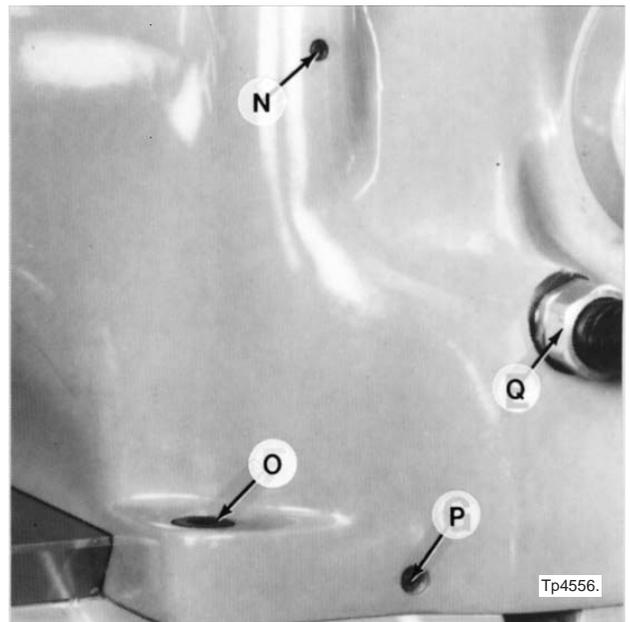

Figure 6.9 - Back of Headstock
21. Remove lock screw "N", Figure 6.9, and loosen the set screw under lock screw "N".
28. Remove cable nut "Q", Figure 6.9, and pull the wires out of the headstock.
23. Replace the set screw located under locking screw "P", Figure 6.9 .